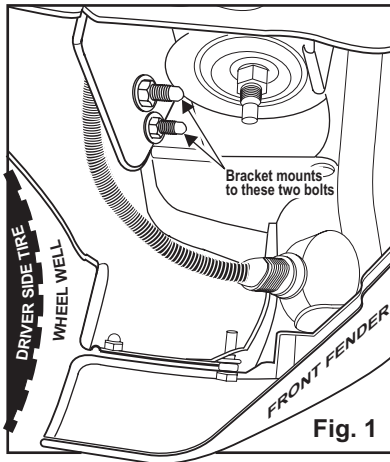

Fig. 1
2. Find the 2 bolts located near the vehicles tow bar shown in Figure 1. The bracket will share these 2 bolts for mounting.
1. First secure the siren to the bracket using the supplied mounting hardware (Fig. 1). The bracket can mount on either side of the vehicle.